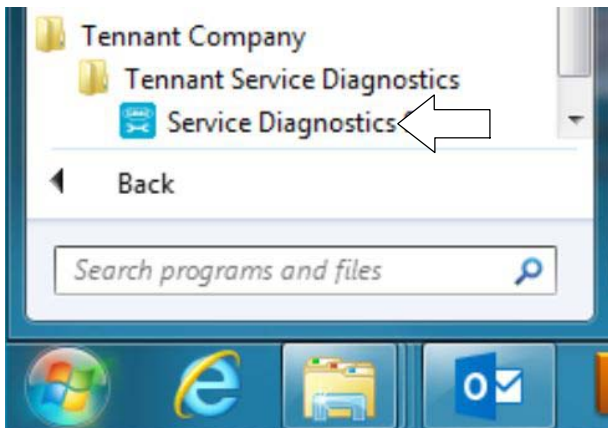

Fig. 13
2. Start the Service Software Application program “**Service Diagnostics...**”(Figure 4). Refer to Figure 13 for further details to access Software.
The software is pre-installed on your computer as shown below. The software application is titled “Service Diagnostics” (Figure 13).
7. After the service application software is installed on your computer, refer to figure 13 to access the program.
5. After the software is installed on your computer, refer to figure 13 to access the program.